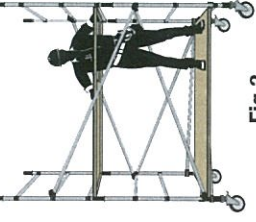

Fig.3
**8.** Install the next end frames on top of each of the two base frames and install the diagonal brace (blue) above and below the joining point of the base end frames. See Fig. 3.
**9.** Install one platform as a temporary platform approximately 0.5m from the ground between both end frames. Install a ladder access platform approx 2m from the ground. See Fig. 3.